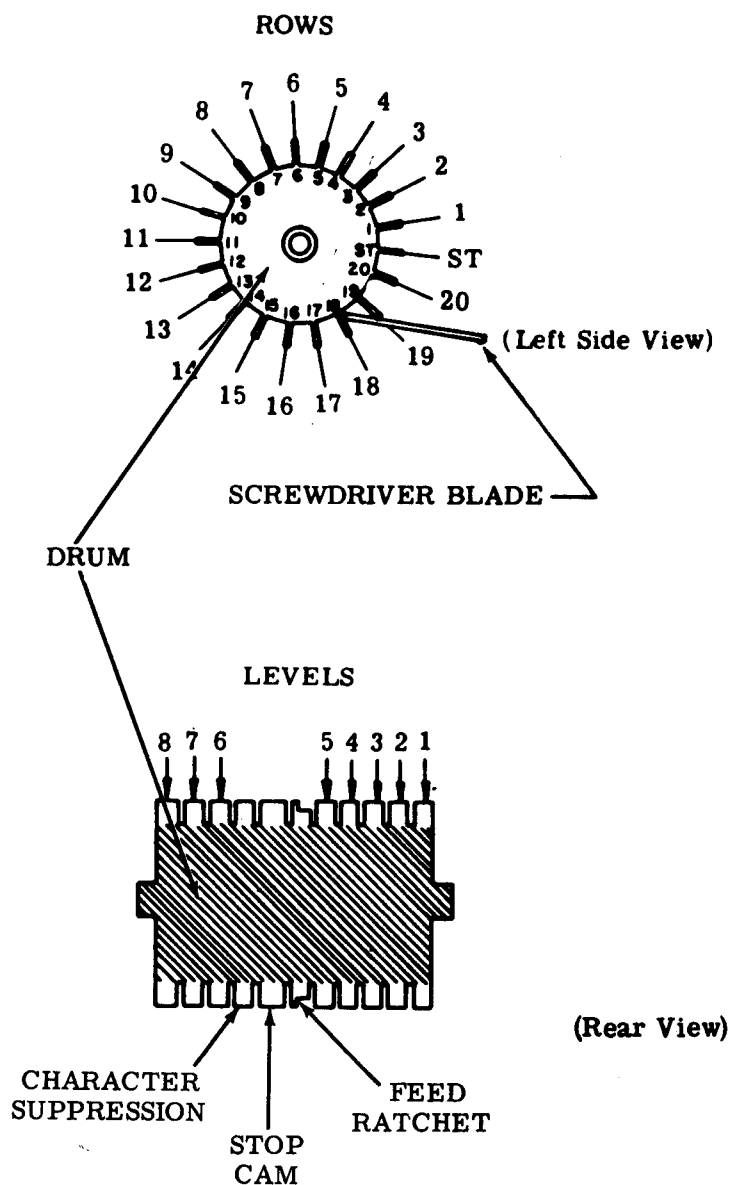

Figure 6 - Answer-Back Drum
Note 4: This figure is to be used with the function lever arrangement shown in Figure 6.
- (c) A particular character is coded by either retaining or removing tines within a row, as illustrated in Figure 6. A tine may be removed by either of the two following methods:
Method 1: Place the end of a screwdriver blade at the base of a tine in the row previously coded. Press the side of the blade against the top of the unwanted tine until the tine breaks off. Figure 6 illustrates this method — pressure applied to base of row no. 18 and against top of adjacent tine being removed from row no. 19.